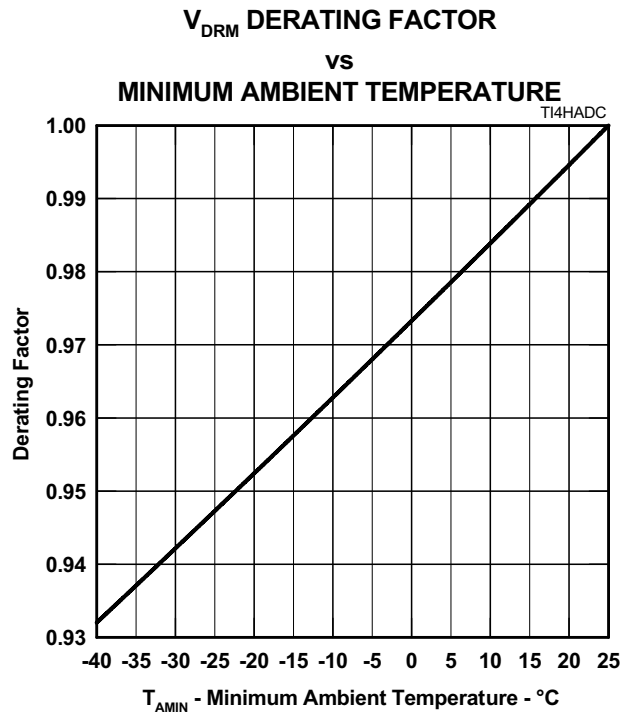

Figure 6.
- NOTES: 1. See Figure 6 for voltages at other temperatures.